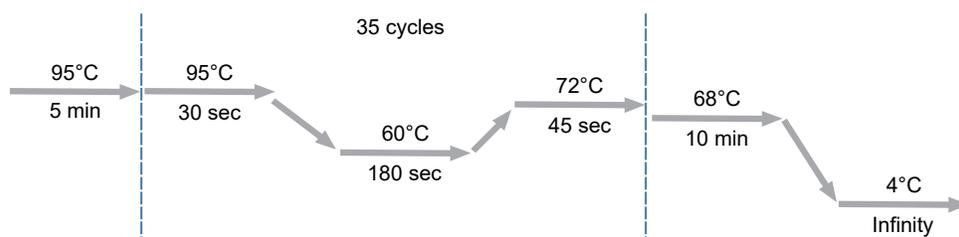

Figure 5 Axiom 2.0 Plus mPCR thermal cycler protocol (Stage 1A).
1. Power on the thermal cycler that is programmed with **Axiom 2.0 Plus mPCR** protocol. See Figure 5.